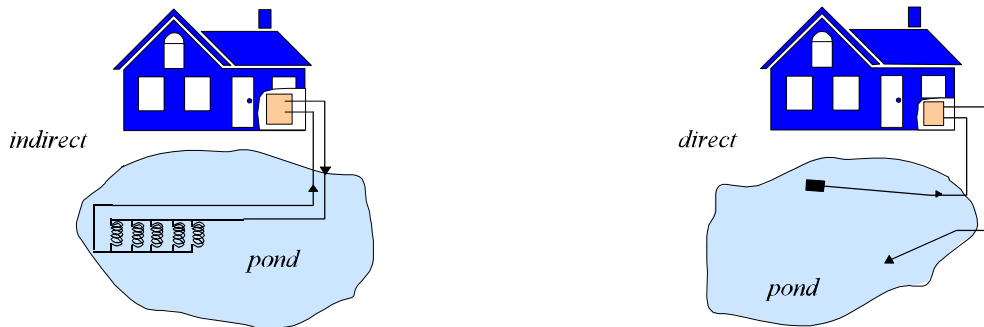

Figure 1.
Three terms are in use to describe the technology in general: geothermal heat pump (GHP), geexchange (GX) and ground-source heat pump (GSHP). The first two are typically used by individuals in marketing and government, and GSHP by engineering and technical types. The terms appearing in bold (Figure 1) will be the ones used throughout this text.